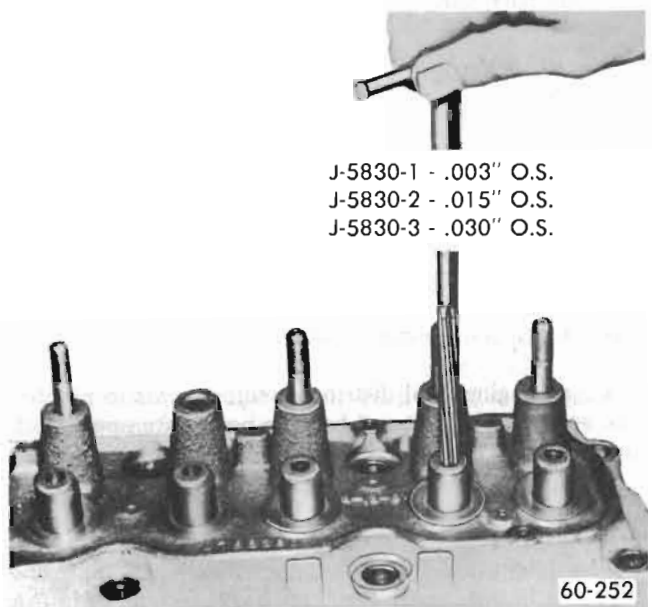

Figure 60-12 - Reaming Valve Guide
8. If a valve stem has excessive clearance in its guide, the guide must be reamed oversize. See Figure 60-12. Oversize valves of .003", .015" and .030" are available through the Parts Department.